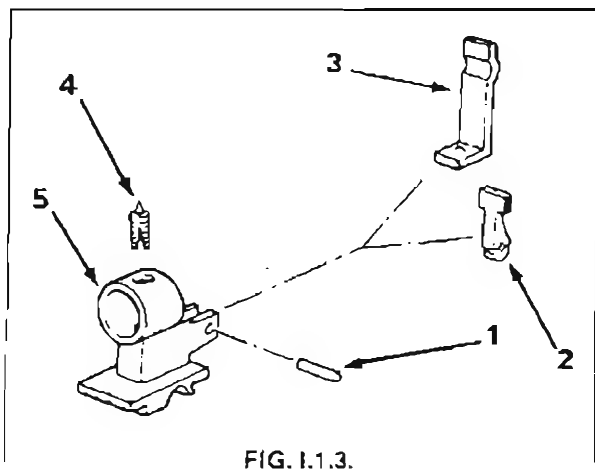

FIG. I.1.3.
2. Withdraw the night sight spring from the sight base. Drive out the spring pin and withdraw the night sight. Unscrew and remove the front sight with tool stripping pin and key. See Fig. I.1.3